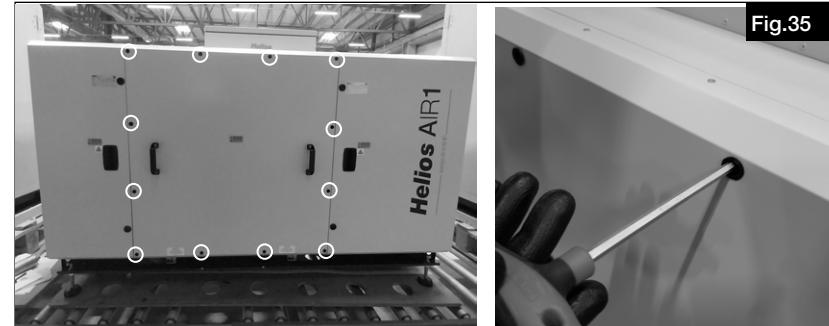

Fig.35
1. Open the service door (see Fig.35).